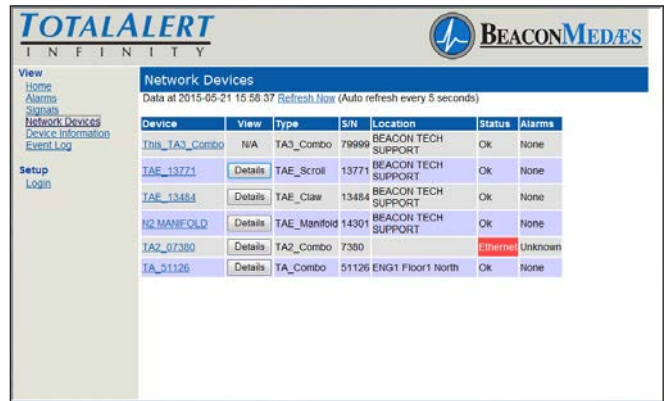

Figure 188: Network Devices Page
1. To view all devices on the network, click Network Devices (Figure 188).
1. Click Device Information to view the Device Information page (Figure 188).